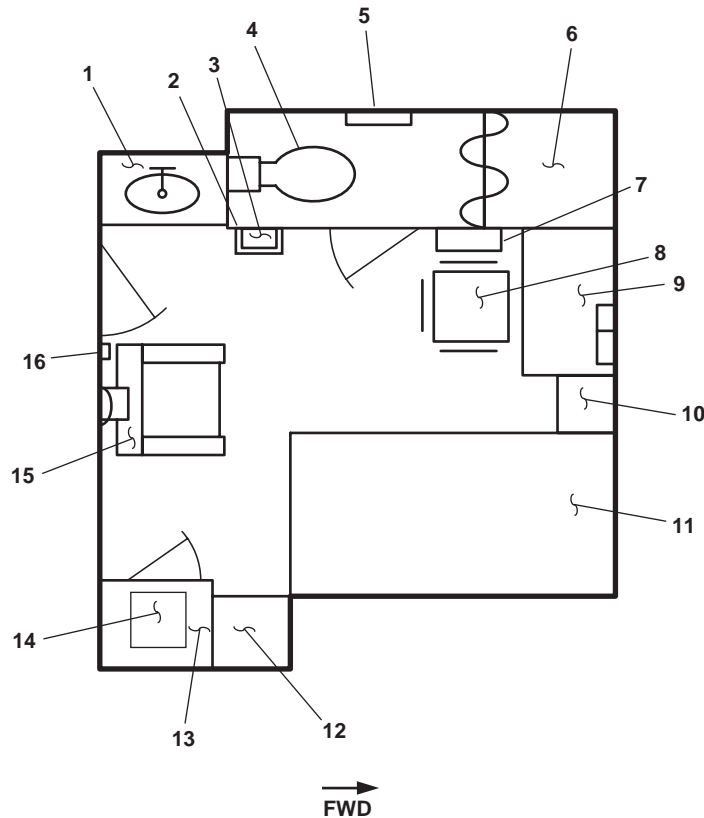

Figure 6. Captain's Stateroom
1. Sink (figure 6, item 1). The sink provides hot and cold potable water for personal hygiene.
2. Intercom and sound powered telephone (figure 6, item 2). The intercom and sound powered telephone provide intraship communication.
3. Life jacket stowage (figure 6, item 3). The life jacket stowage provides storage for one life jacket.
4. Water closet (figure 6, item 4). This is the commode for the sanitary space.
5. Convection heater (figure 6, item 5). The convection heater supplies supplemental heat to the sanitary space.
6. Shower (figure 6, item 6). The shower is provided for the vessel master.
7. Key cabinet (figure 6, item 7). The key cabinet stores keys to gain access to various areas of the vessel.
8. Chair (figure 6, item 8). The chair provides a place to sit.
9. Chest/desk combo (figure 6, item 9). The chest/desk combo provides storage space and a desktop for reading or writing.
10. Night table (figure 6, item 10). The night table provides storage for miscellaneous items.
11. Bunk (figure 6, item 11). The bunk provides sleeping arrangements for the vessel master.
12. Locker (figure 6, item 12). The lockers provide storage space for the vessel master.
13. File cabinet (figure 6, item 13). The file cabinet with a combination lock provides storage for personal items.
14. Refrigerator (figure 6, item 14). The refrigerator provides cold storage for perishable items.
15. Reclining lounge chair (figure 6, item 15). This chair is provided for added comfort.
16. Thermostat (figure 6, item 16). The thermostat provides temperature control in the stateroom.